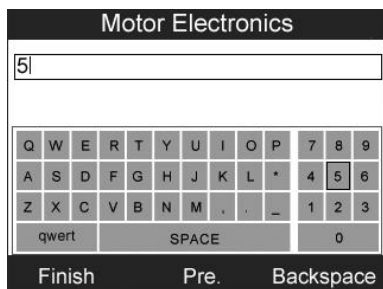

Figure 14.18
**[Show]**: Press this key to pop up a soft keyboard to facilitate your input. (Figure 14.18)